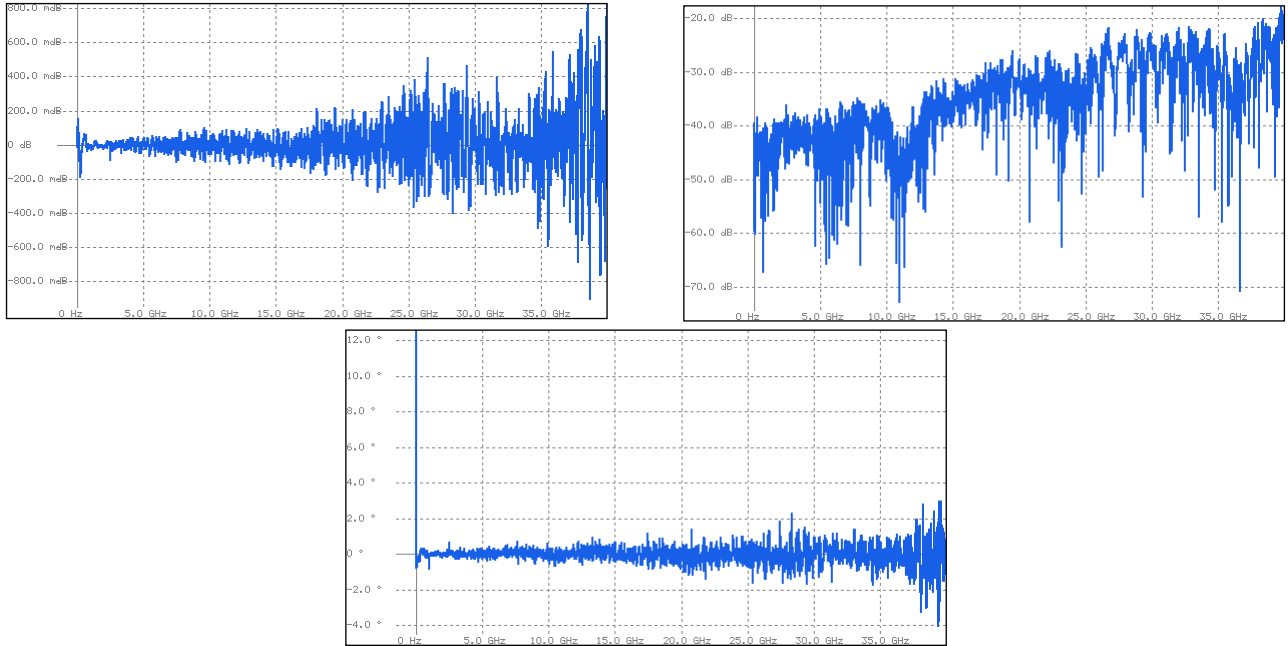

Figure 1: Residual Error Term examples; ER_1, ED_1 and ER_1 phase.
14. Analyze the elements of the **SecondTier_x.s8p** files resulting from the CalculateResiduals.vbs script, and that reside in the **residuals** subfolder. The application SParameterViewer, (free download from www.lecroy.com) can be used for this analysis. Figure 1 shows several examples; Appendix B shows the structure of the SecondTier_x.s8p files.